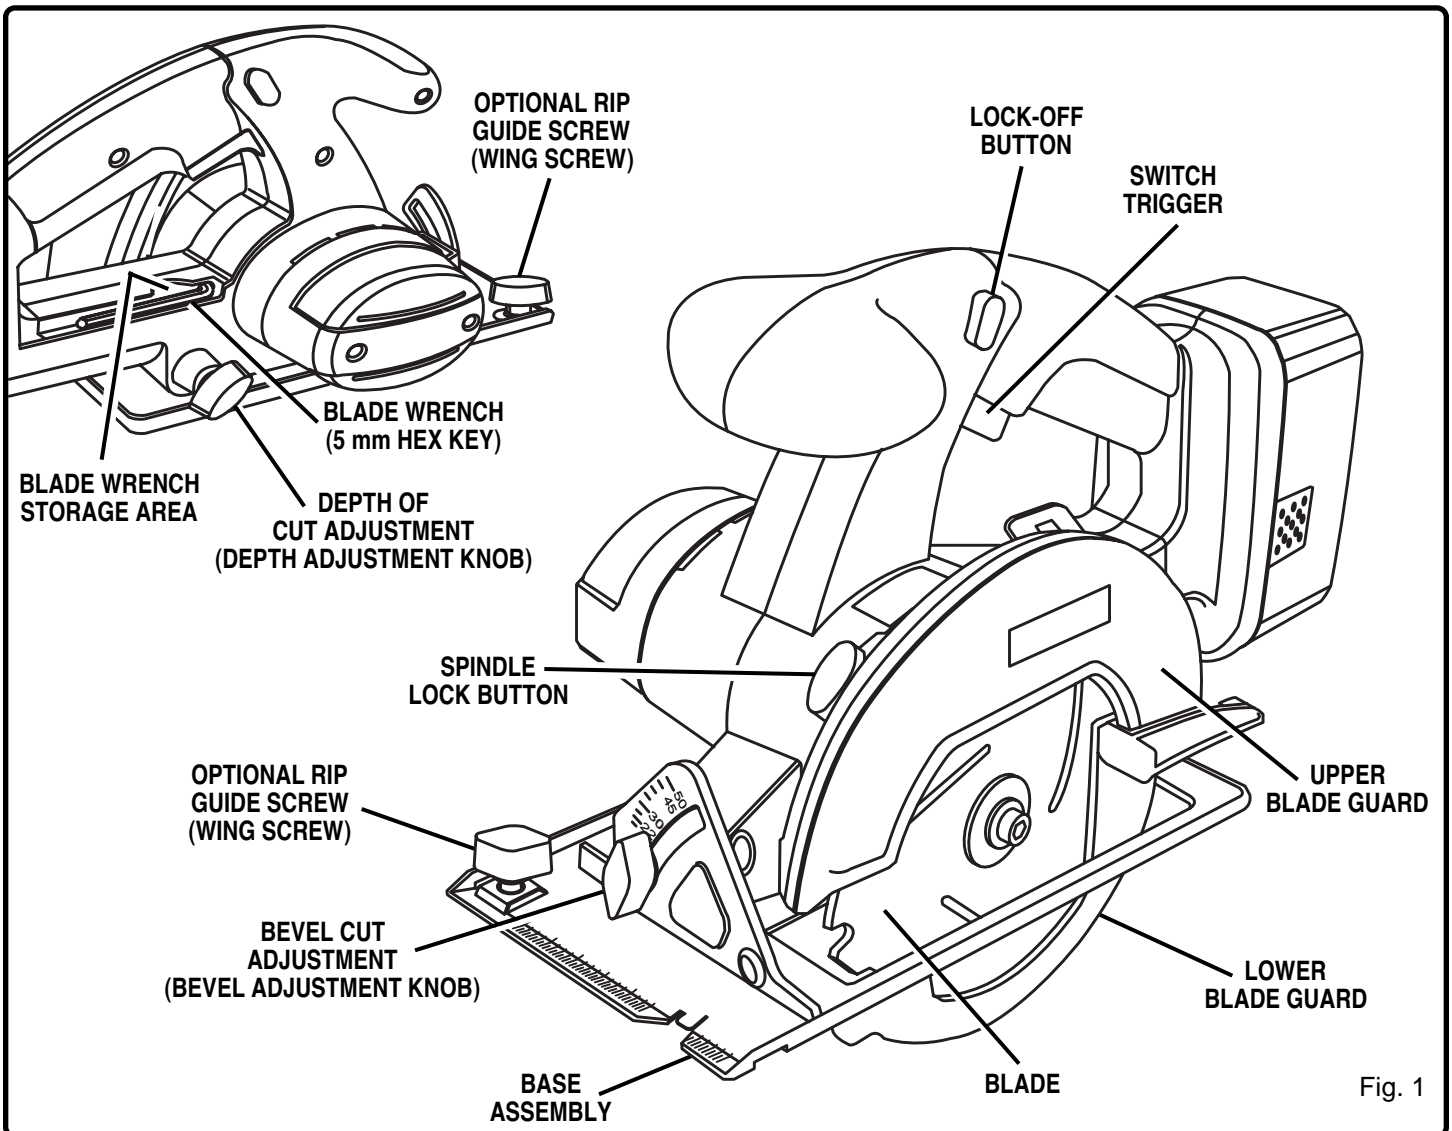

Fig. 1
See Figure 1.
- Remove blade wrench (5 mm hex key) from storage area. *See Figure 1.*
- Remove blade wrench from storage area. *See Figure 1.*